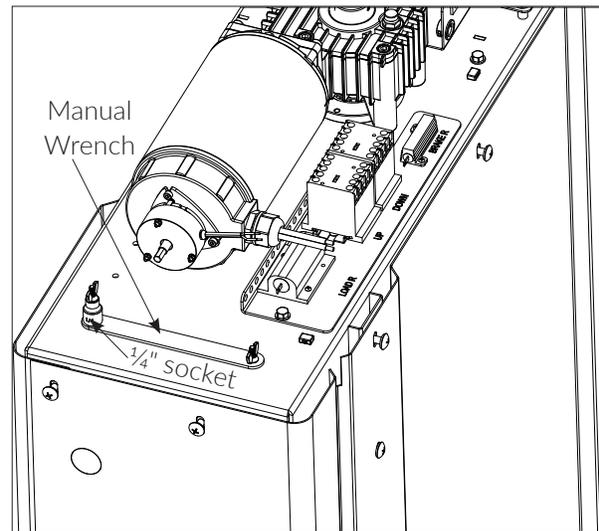

Figure 3-4
3. Remove the two wingnuts holding down the manual lowering tools ($\frac{1}{4}$ " wrench and $\frac{1}{4}$ " x $\frac{3}{8}$ " drive socket). *See Figure 3-4.*